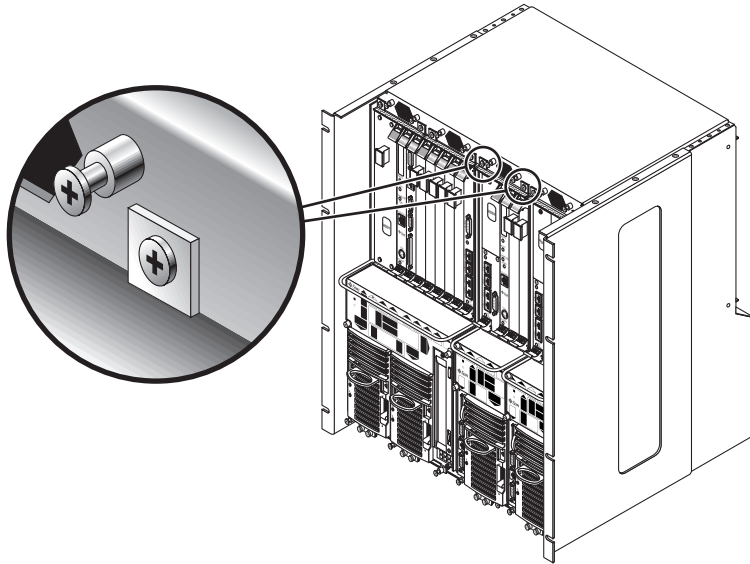

FIGURE 3-4 Loosening the Screws at the Top of a Netra CT 410 Server
- If you are removing a Netra CT 410 server, loosen the *two* black captive screws at the top of the server (FIGURE 3-4).